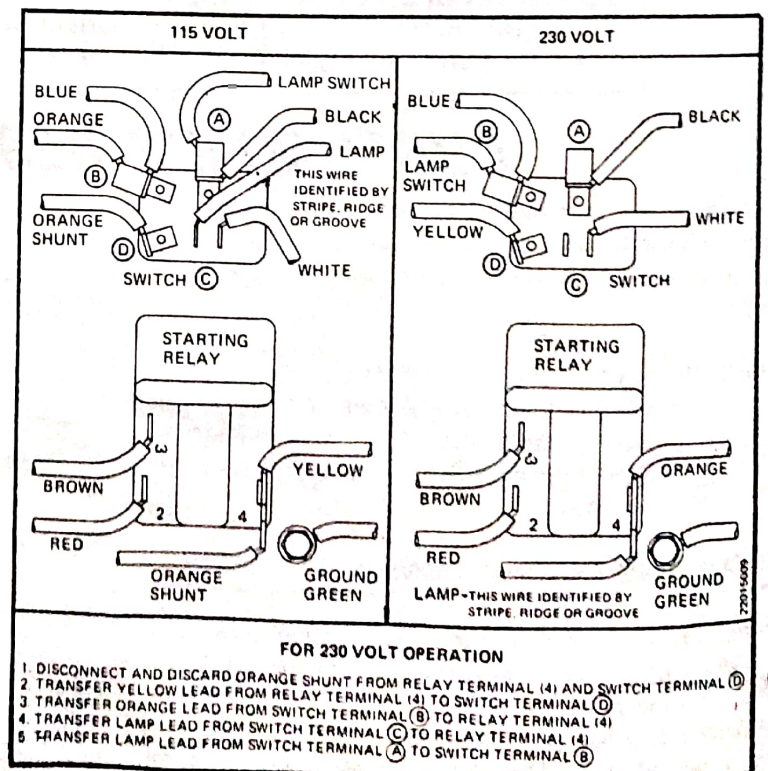

FIGURE 4
3. Study diagram (figure 4) and make changes as directed to revise internal connection for 230 volt operation.